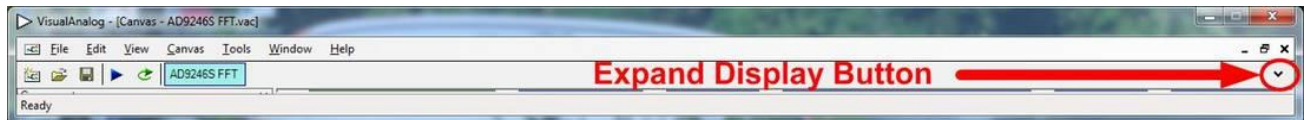
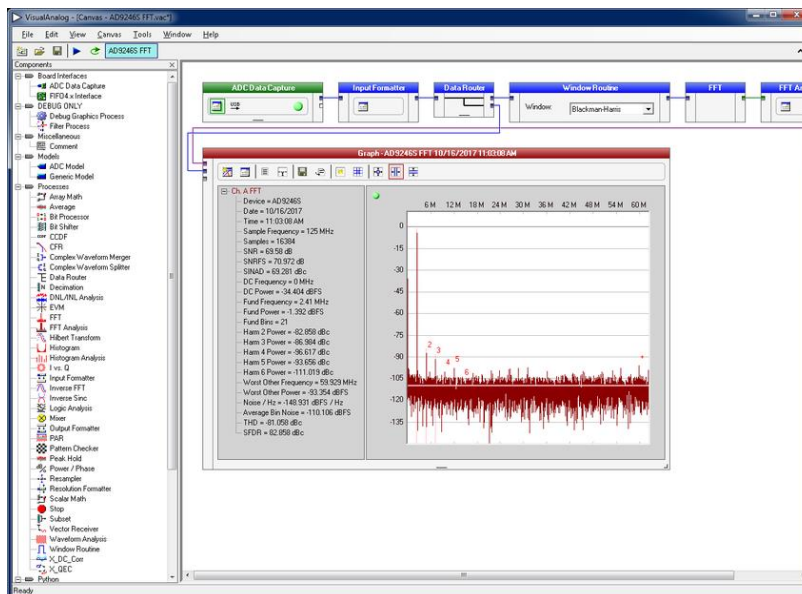

Figure 4. VisualAnalog Window Toolbar, Collapsed Display
Figure 5. VisualAnalog, Main Window, Expanded Display
1. To change features to settings other than the default settings, click the **Expand Display** button, located in the bottom right corner of the window (see Figure 4), to see what is shown in Figure 5.